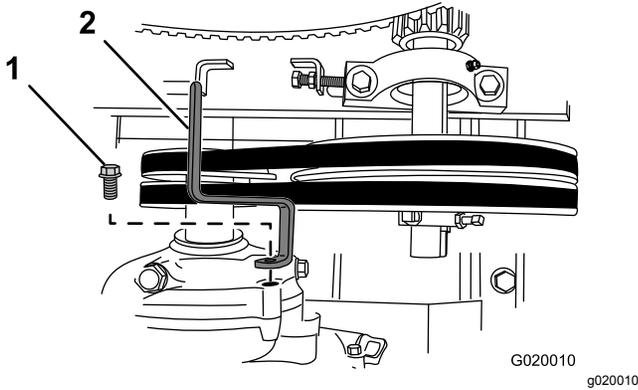

Figure 73
3. Remove the bolt that secures the belt guide to the engine and remove the belt guide (Figure 73).
7. Loosely secure the belt guide to the engine (Figure 73) with the bolt that was removed in step 3 of Removing the Belts \(page 45\).